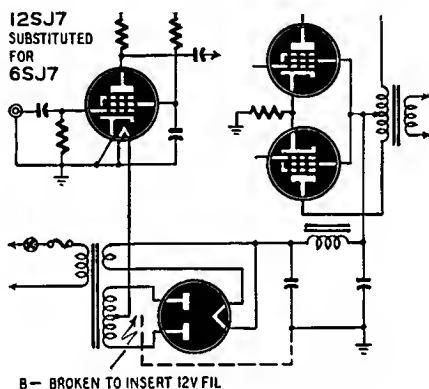

Fig. 422—Heating the filament with d.c. eliminated hum.
6SJ7 and substituted a 12SJ7 and then ran a d.c. filament by wiring it in series with the B-minus. The circuit appears in Fig. 422. The total drain was close to 150 ma, which just lit the 12SJ7 nicely. The 6L6's didn't seem to miss the lost 12 volts from their plate voltage, and the hum was way, way down. Later the owner rewired the amplifier with more attention to ground loops and cleared up the situation. You could argue that the trouble there was filament induction rather than ground loops, and you might be right. I do know, however, that it was cured by (1) d.c. filaments, (2) rewiring the ground.